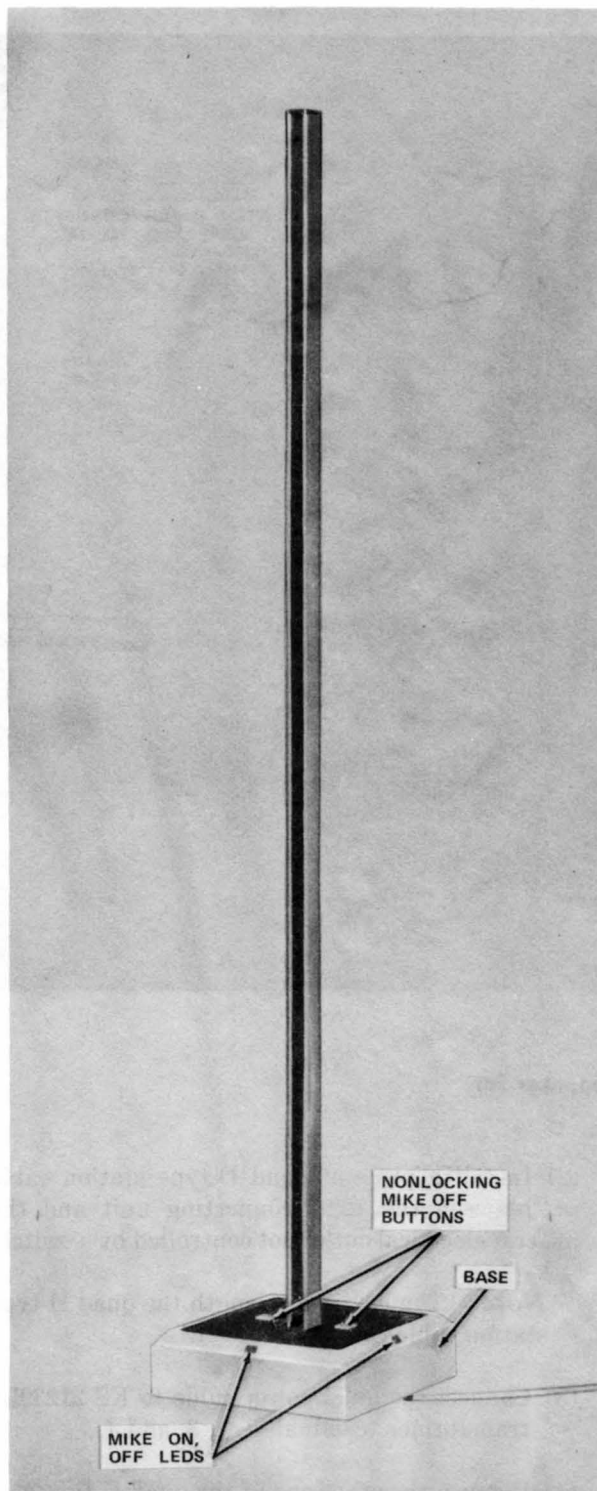

Fig. 2—1A Microphone
2.01 The 1A microphone is composed of 28 miniature microphones mounted in a polished rectangular 32-inch vertical aluminum mast. The mast has two recessed black vertical stripes, one on each of the narrow sides. The 6-inch square ivory base and contains four (4) light-emitting diodes (LEDs) (mike on off indicators), one on each of the top beveled edges. The top of the base is covered with a black faceplate through which the mast and two nonlocking mike off buttons protrude (Fig. 2).